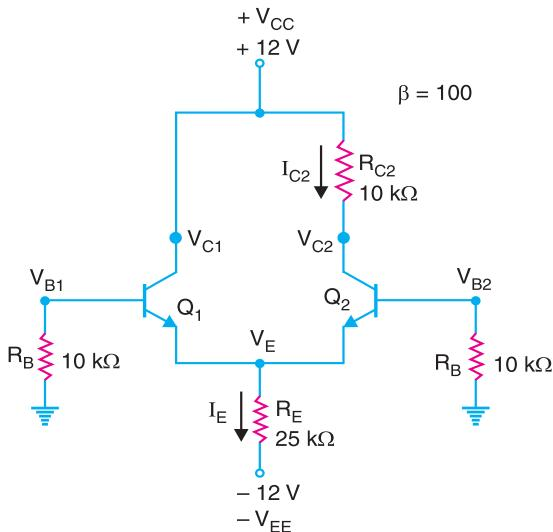

Fig. 25.16
**Example 25.6.** Find the bias voltages and currents for the differential amplifier circuit shown in Fig. 25.16.